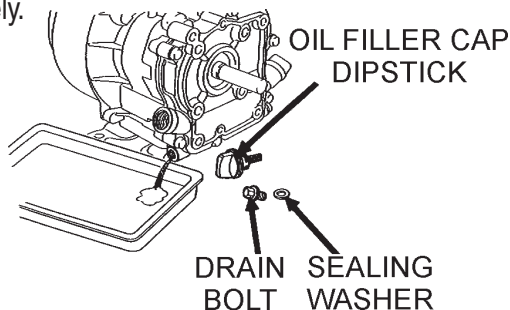

Figure 24. Engine Oil (Draining)
- Drain the engine oil when the oil is **warm** as shown in Figure 24.